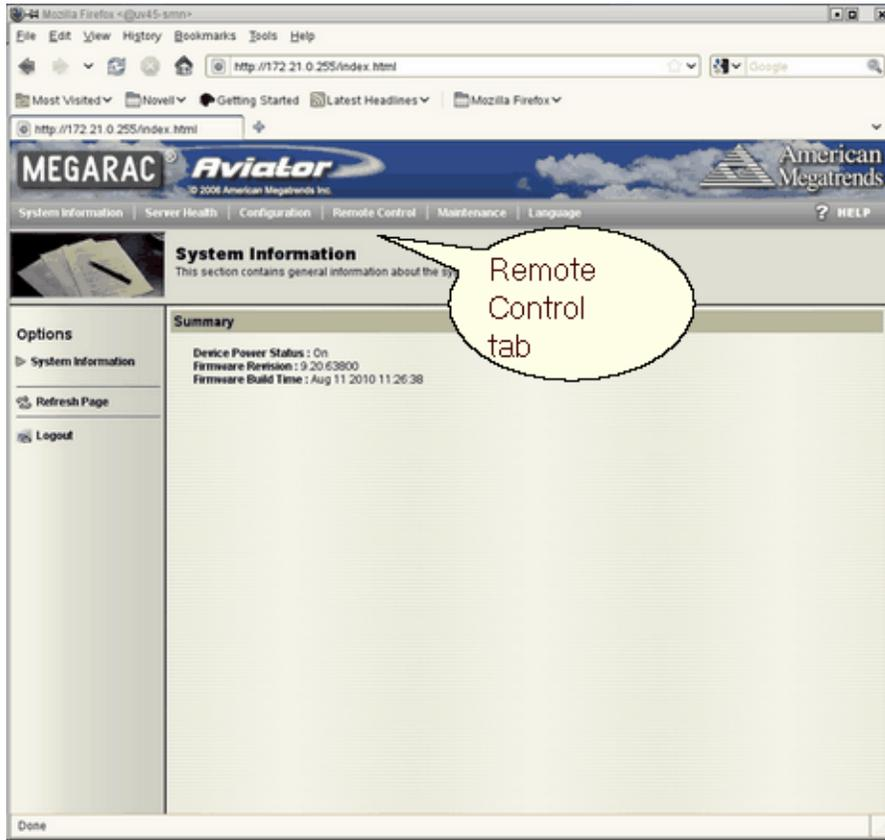

Figure 3-2 BMC System Information Screen
5. The **System Information** screen appears, as shown in Figure 3-2 on page 35. Click on the **Remote Control** tab.